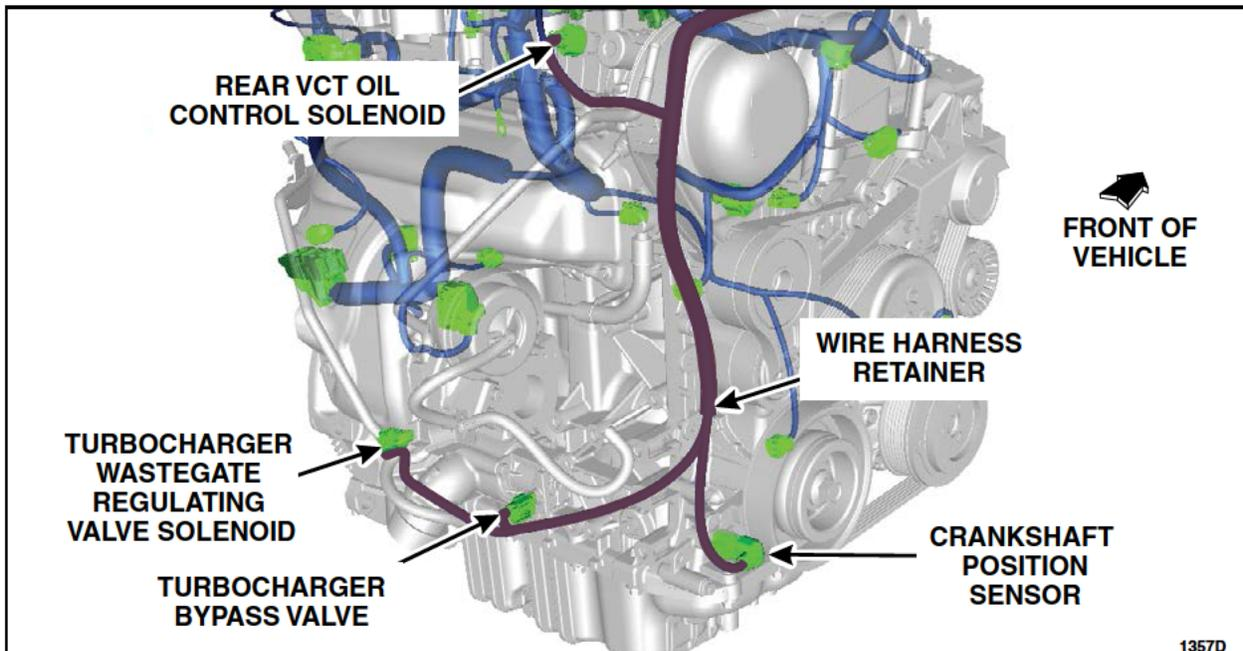

FIGURE A6
15. Detach the wire harness retainer from the front cover, disconnect the crankshaft position sensor, turbocharger wastegate regulating valve solenoid, and turbocharger bypass valve electrical connectors. See Figure A6.